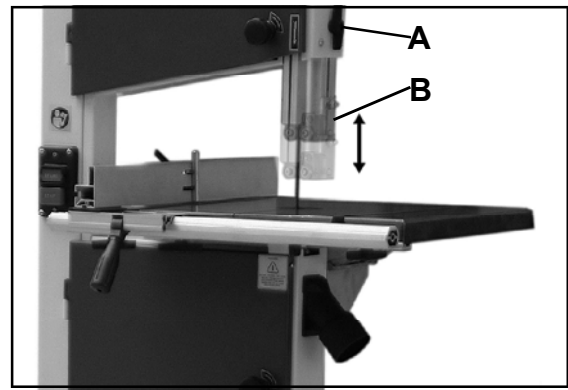

Fig. 23
To adjust the cutting height, release the wing nut (A) and move the upper blade guide and guard assembly (B) so that it provides approximately 3/16" clearance above the workpiece. (See Fig.23)